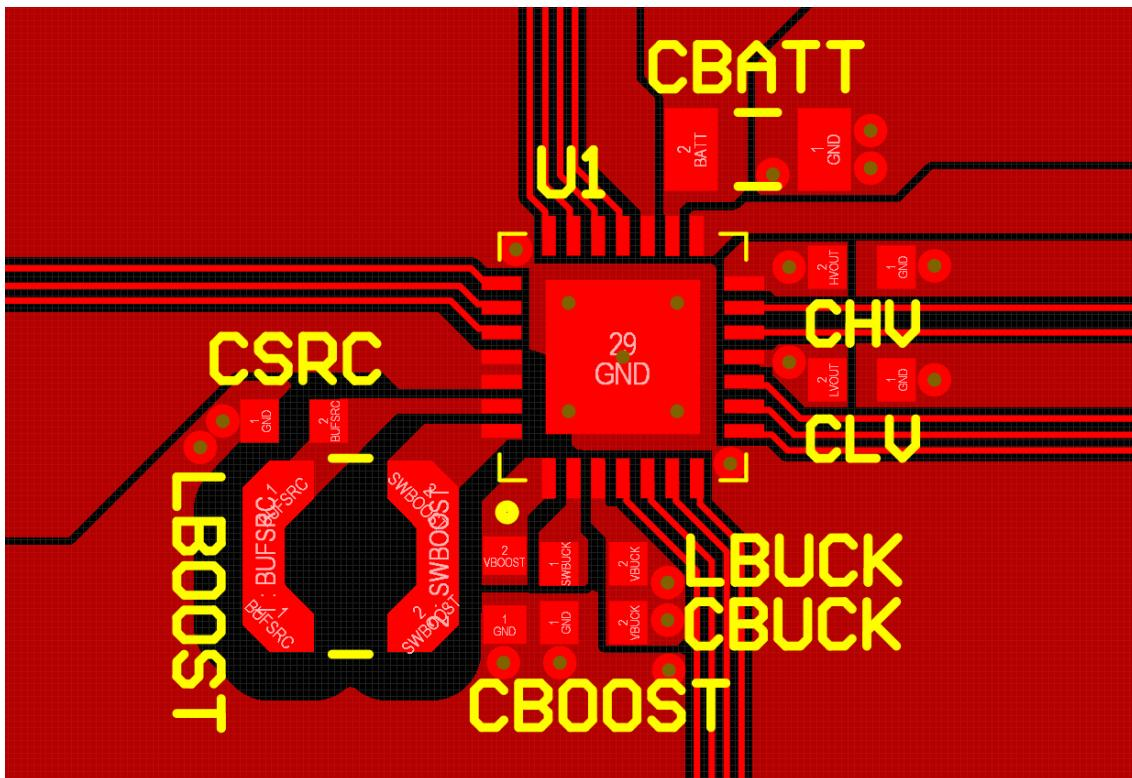

Figure 25: Layout example for the AEM10941 and its passive components
- The switching nodes (BUFSRC, SWBOOST, SWBUCK and BUCK) must be kept as short as possible, with minimal track resistance and minimal track capacitance. Low resistance is obtained by keeping track length as short as possible and track width as large as possible between these switching nodes and the AEM10941 pins. Minimal capacitance is obtained by maintaining a large distance between the switching nodes and other signals. We recommend removing the ground plane, the power plane and the bottom layer ground pour under L_{BOOST} and L_{BUCK} footprints, as well as adding distance between BUFSRC/SWBOOST and the top ground pour, as shown in Figure 25.
- The GND return path between the decoupling capacitors and the AEM10941 thermal pad, which is the AEM10941 main GND connection, must be as direct and short as possible. This is preferably done on the top layer when possible, otherwise by internal/bottom plane, using low resistance vias to decrease layer-to-layer connection resistance. In Figure 25, this GND return path is done on an internal plane.